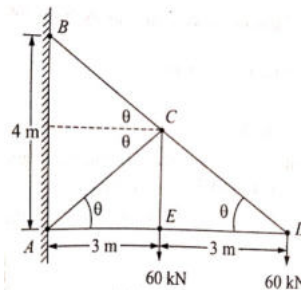

Figure 3.
5. Determine the forces developed in the members of the truss shown in figure 3, by using method of joints. [14M]